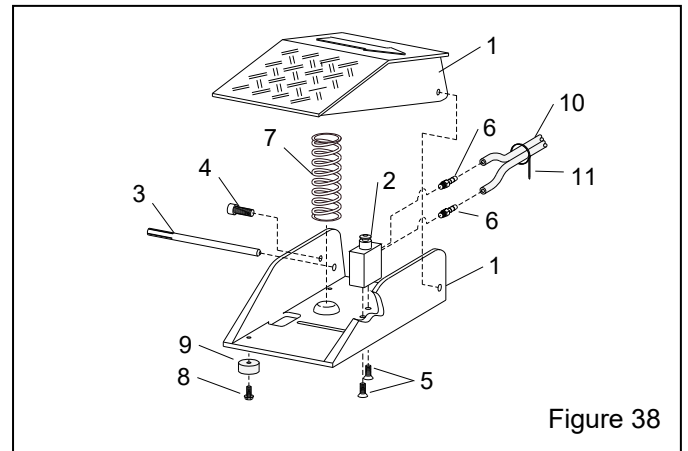

Figure 38
9.7 Foot-Pedal Assembly – Figure 38